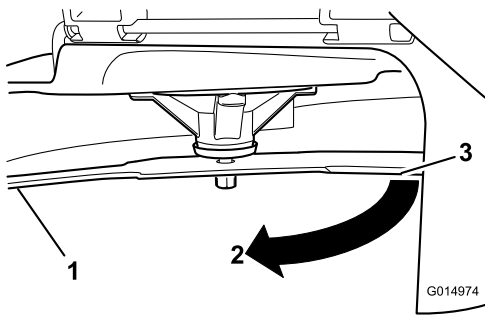

Figure 46
3. Measured distance between blade and the surface (A)
4. Rotate the same blade 180 degrees so that the opposing cutting edge is now in the same position (Figure 46).